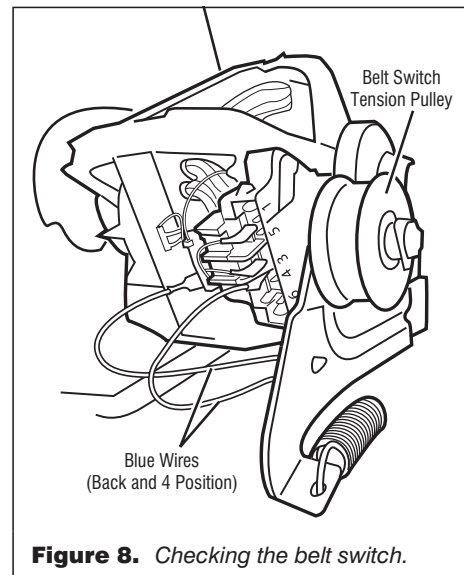

Figure 8. Checking the belt switch.
8. Check the belt switch by measuring resistance between the two blue wires as shown in figure 8, while pushing up the belt switch tension pulley.